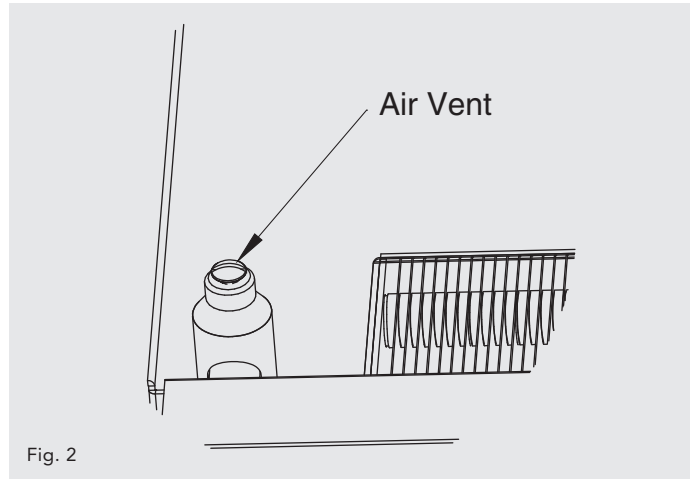

Fig. 2
- Bleed the coil of air using the vent screw provided (see Figs 2 & 3). Close the vent and check for leaks.